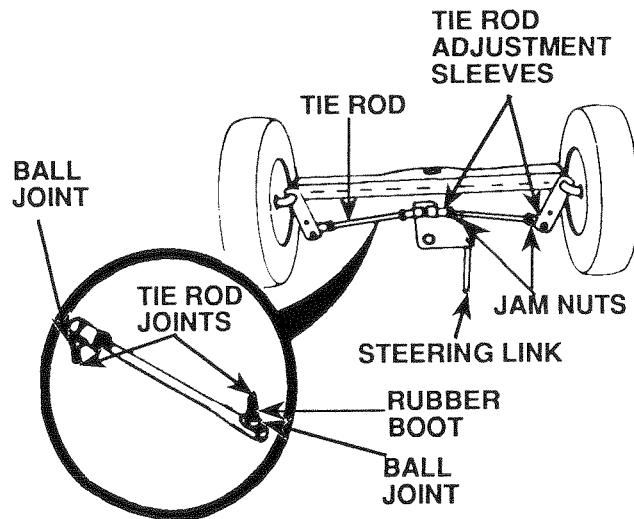

FIGURE 22
- Move Rubber Boots to expose Ball Joints on Tie Rods and Steering Link (Fig. 22).